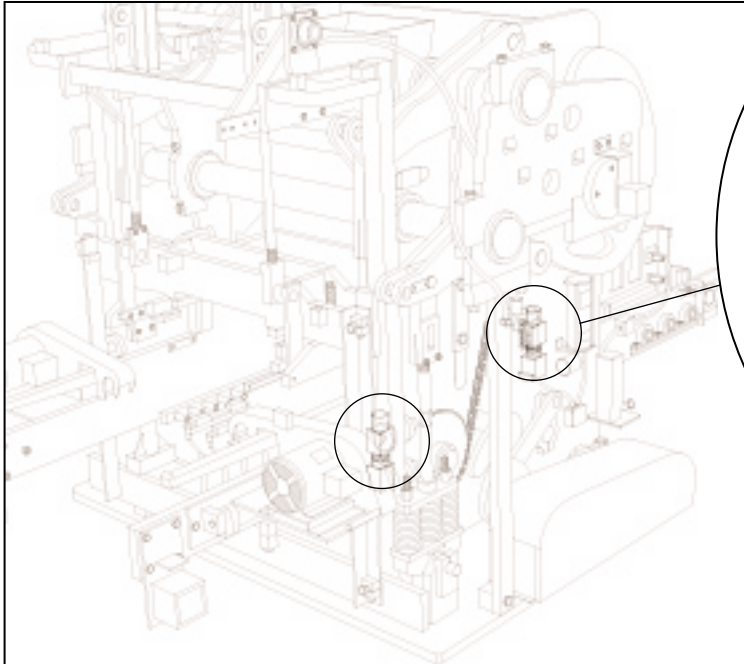

Figure 4.7 BOLTS AT ALL 4 CORNERS (RIGHT SIDE SHOWN).
- b. Loosen bolts at all 4 corners that secure mold throat assembly (See figures 4.7 and 4.8). Remove top spacers.